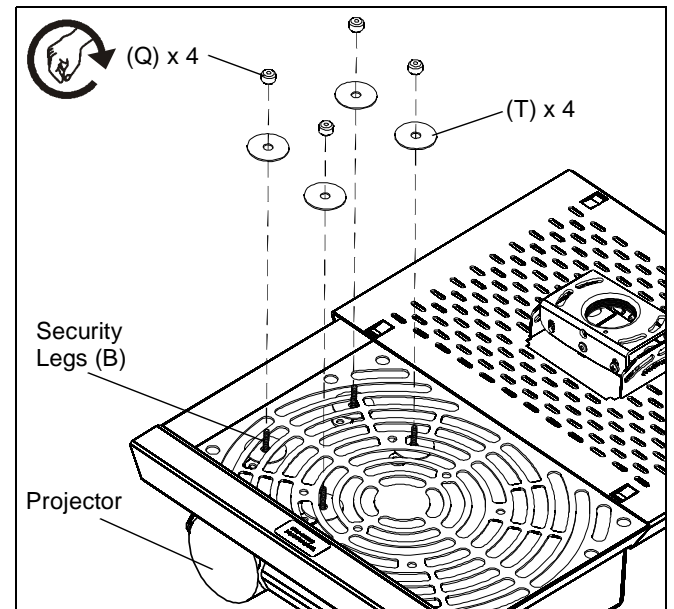

Figure 10
- Remove the paper backing from the adhesive washers (T) and attach projector to drawer using adhesive washers (T) and thumbnuts (Q) over the security legs (B). (See Figure 10)